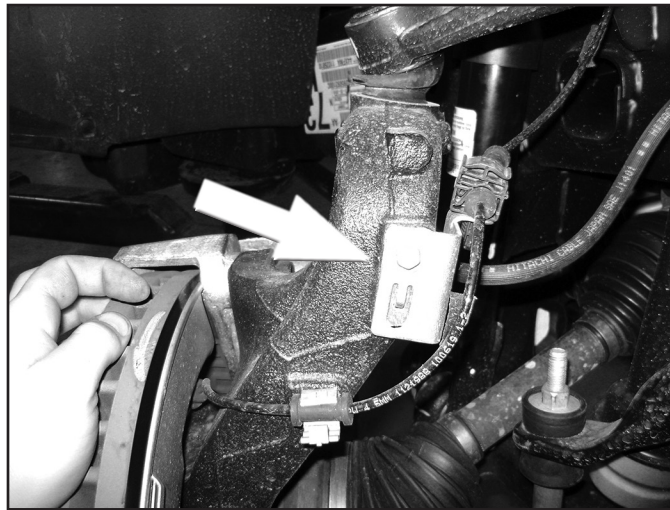

FIGURE 1
4. Disconnect ABS wire from the brake line bracket on the steering knuckle and disconnect the bracket from the knuckle. (Fig 1).